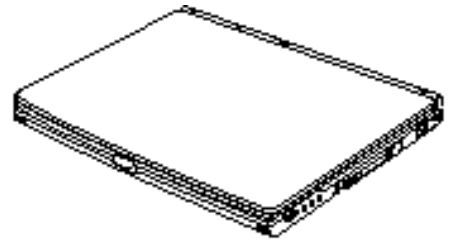

Figure 1-1 LifeBook L Series Notebook (L440)
- **LifeBook L Series from Fujitsu.** (Figure 1-1.)